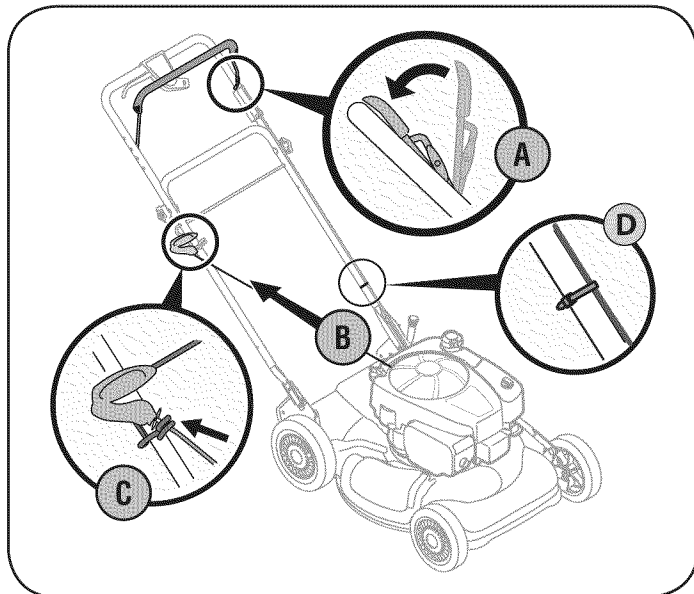

Figure 3
- The rope guide, which is connected to the support rod, is located on the right side of the lower handle. See Figure 3.